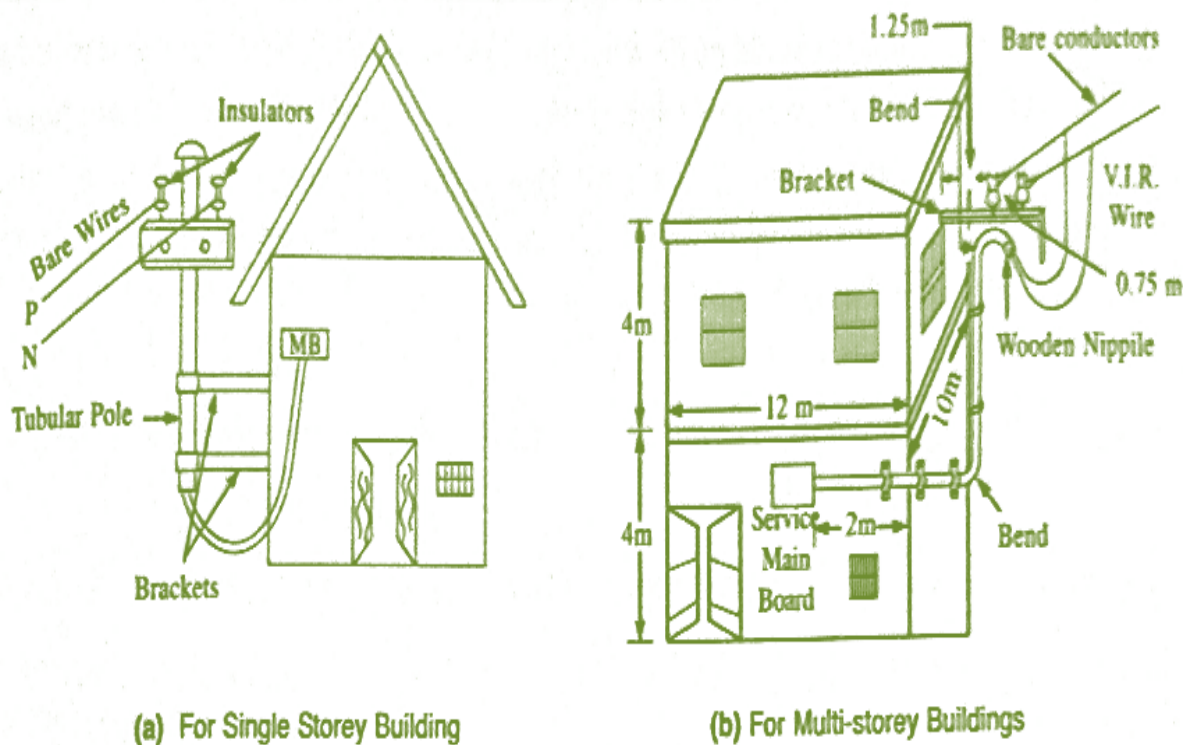

Fig 2.2 : Bare Conductor Service Line
- Now weather proof cable (or PVC cable) are connected to the bare conductor and carried through G.I pipe upto the meter board as shown in Fig. 2.2.